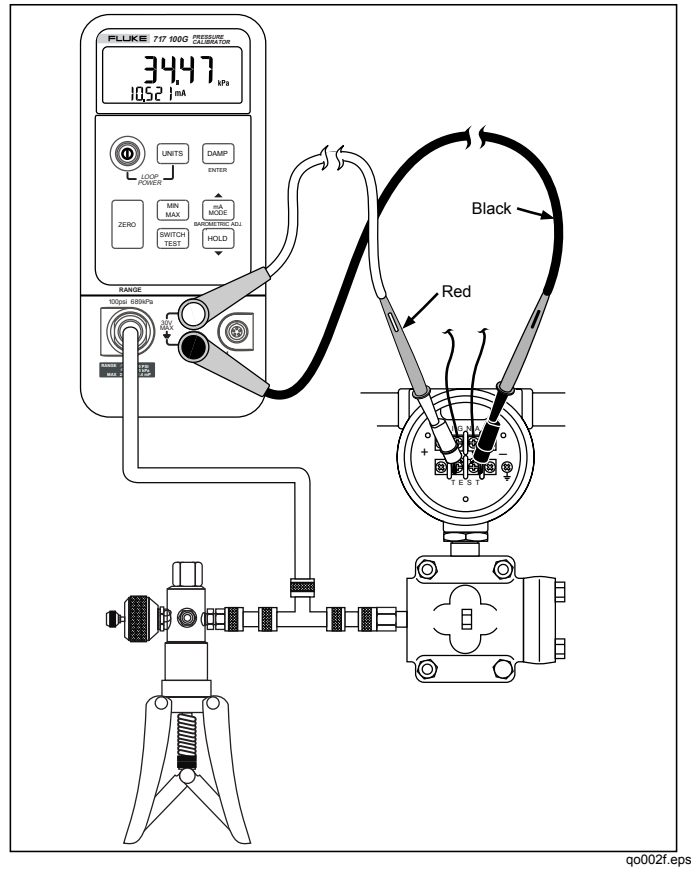
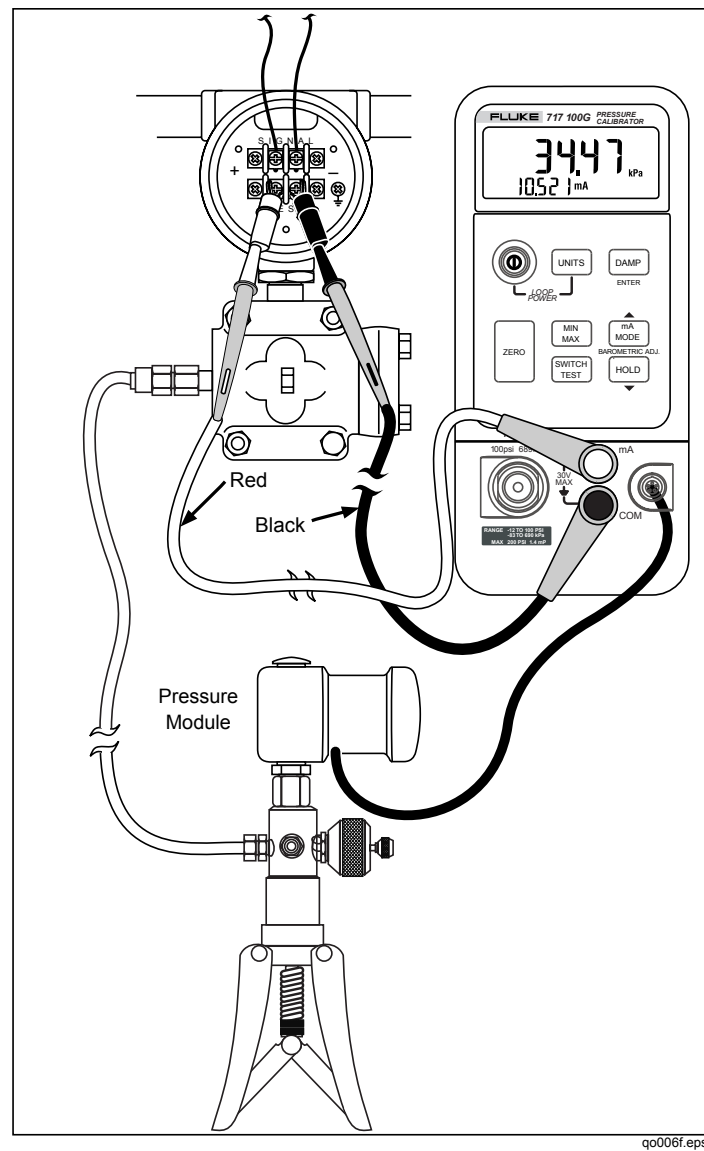

Figure 4. Connecting to an Internal Pressure Sensor
Figure 5. Connecting to a Pressure Module
3. Connect the Calibrator to the transmitter as shown in Figure 4 or Figure 5.
To replace the battery (see Figure 5):